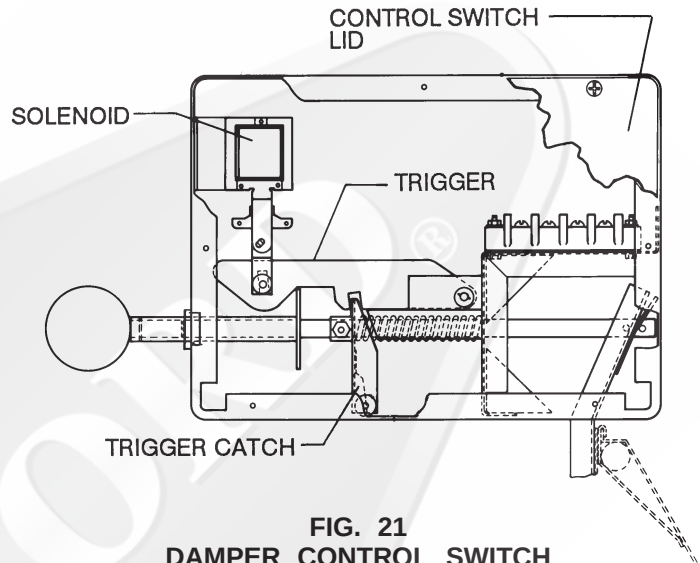

FIG. 21
- B. If "CG" Series ventilator or "RG" Series ventilator with electrically operated damper, check the plunger arms on the damper control switches to ensure the damper is open. The plunger arms must all be in the reset position. If the plunger arms will not reset and lock in place, remove the lid, and check for mechanical malfunction in the interior. (Refer to Figure 21).